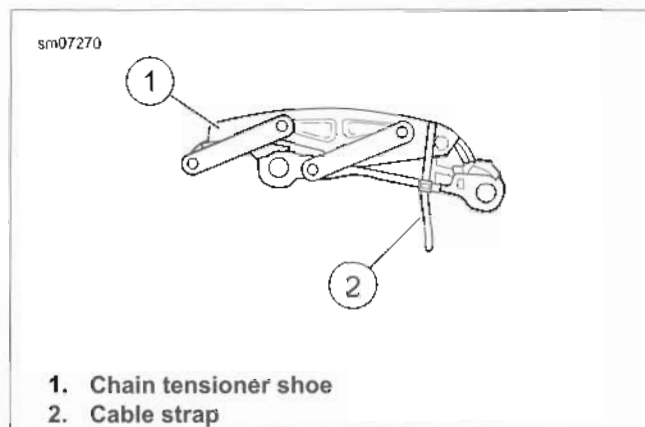

Figure 5-4. Securing Chain Tensioner
2. See Figure 5-4. Install cable strap (2) as shown. Exposed portion below cover will indicate need for removal before cover installation.